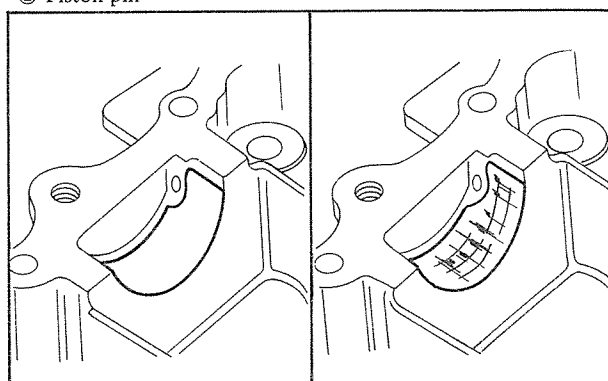

Fig. 3-10 Normal
1. Check the cylinder head camshaft bearing surfaces for score or excessive wear. See Fig. 3-10.